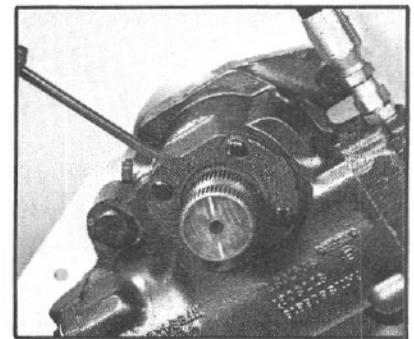

Figure 6
- 1.2 Remove the dirt and water seal (27) (FIG. 6).